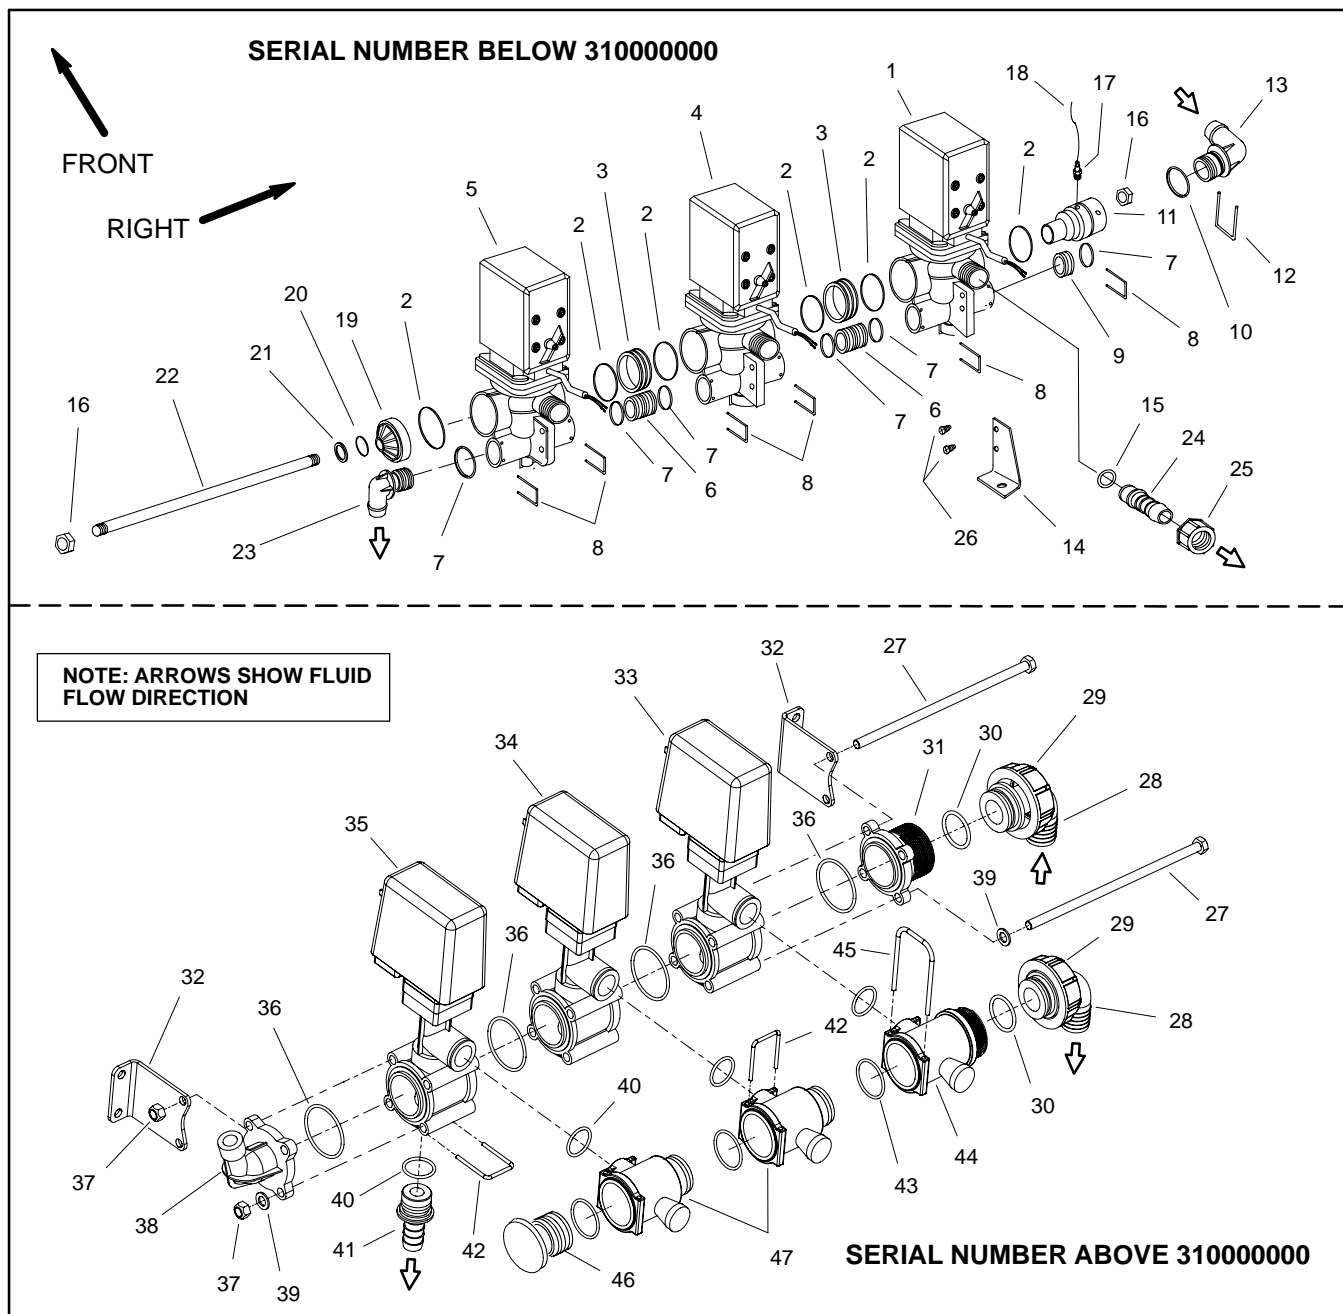

Figure 24
The boom control switches on the operator spray console are used to energize the boom valve motors and open the boom valves. The open boom valves allow system flow to reach the appropriate boom section (right, center or left). Two (2) styles of boom valve motors have been used on Multi Pro 5700-D machines. Both of these motor styles are shown in Figure 24.
Disassembly (Fig. 24)
2. Separate boom valve motors as needed using Figure 24 as a guide. Discard all removed O-rings and gaskets.
Assembly (Fig. 24)
1. Assemble boom valve motor assembly using Figure 24 as a guide. Replace all removed O-rings.
A. On machines with serial numbers below 310000000, before installing rod (Item 22) into assembly, thread nut (item 16) fully onto rod end that has fewer threads. Make sure that O-ring (Item 20) is not damaged during installation over rod.